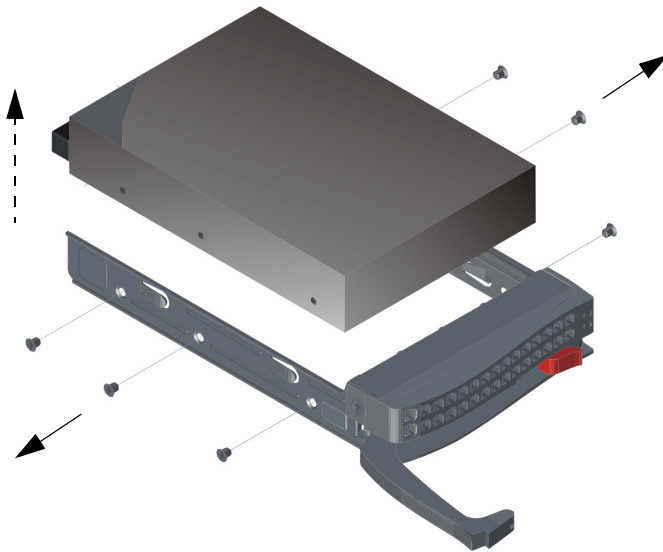

Figure 4-4 Removing the Failed Drive from the DSS200 Drive Tray
5. Use a Phillips screwdriver to remove the six screws securing the failed drive to the drive tray, then lift the drive out of the tray, as shown in Figure 4-4.